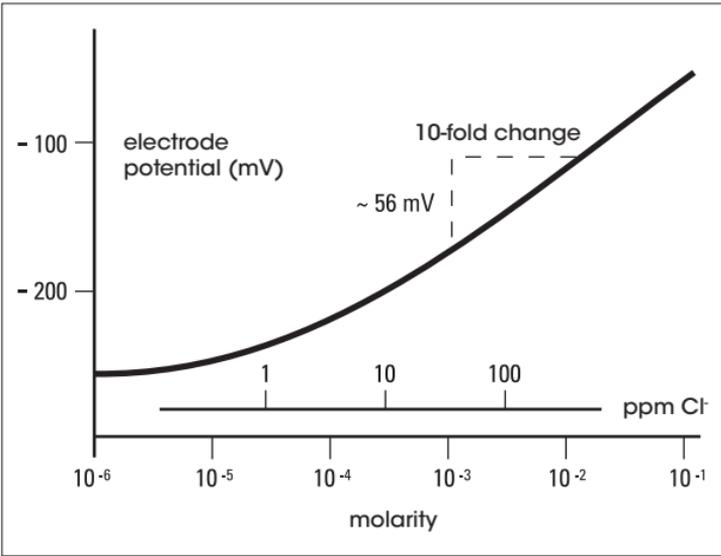

Figure 2 – Typical Chloride Electrode Calibration Curve
3. Add increments of the 1000 mg/L or 10^{-2} mol/L chloride standard to the beaker using steps outlined in **Table 2**. Record stable millivolt reading after each increment. On semi-logarithmic paper, plot the concentration (log axis) against the millivolt potential (linear axis). See **Figure 2**. Prepare a new calibration curve with fresh standards each day.